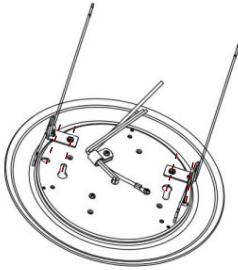

Figure 5
4. Affix torsion springs to luminaire with screws (included with NLOPAC-56RECKIT - Figure 5)